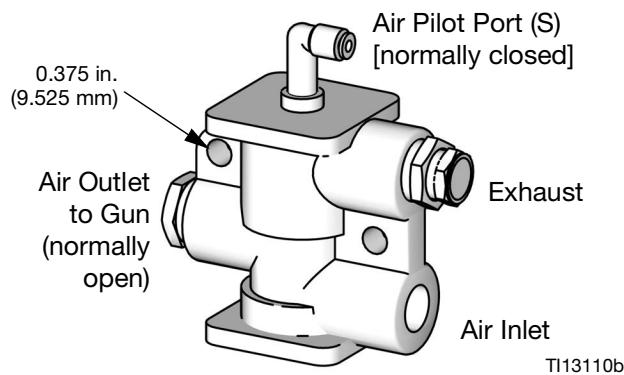

FIG. 10: Air Safety Shutoff Valve
3. Route the air flow switch wires through the designated strain relief (K). Connect AFS#1 wires to pins 1 and 2. *ProMix 2KS only:* Connect AFS#2 wires (if used) to pins 3 and 4.
4. See FIG. 1. Connect a 1/4 npt atomizing air line (D) from the AFS outlet nipple (103) to the air inlet port of the air safety shutoff valve (E, also see FIG. 10). Connect another length of atomizing air line (D) from the safety valve outlet port to the gun (G) air inlet.
2. Connect the gun atomizing air from the ProMix 2KS air flow switch to the safety shutoff valve IN port. See FIG. 1 and FIG. 10.
4. From the **S** fitting to the atomizing air safety shutoff valve pilot port (FIG. 10).